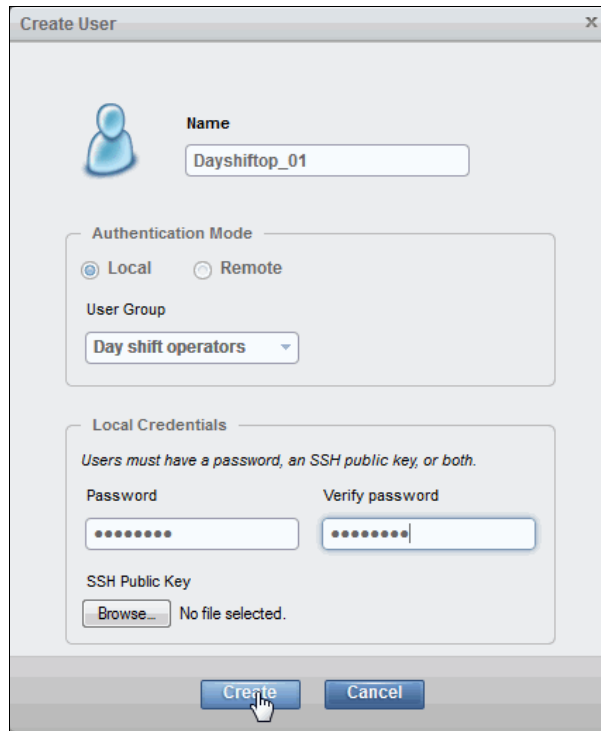

Figure 3-93 Create User pane
2. Using the Create User pane, as shown in Figure 3-93 on page 128, it is possible to configure the user name, password, and authentication mode.